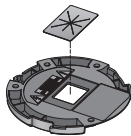

Figure-2
- 4) If a hole has been drilled on the bracket installation surface for cable access, press down to remove the Cable Stopper and attach the provided dustproof plate to it (Figure-2), and arrange the cables through the plate.